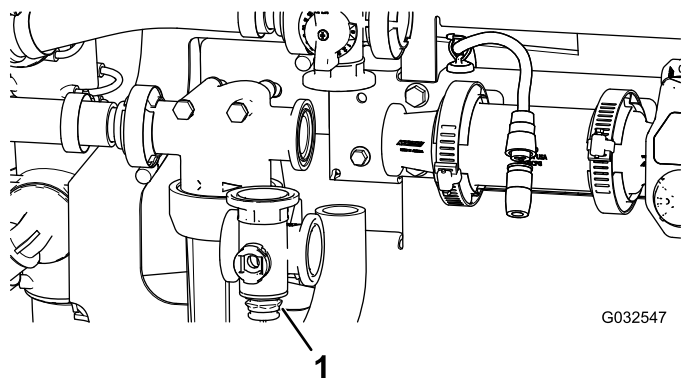

Figure 107
2. Remove the agitation-valve manifold from the machine (Figure 107).